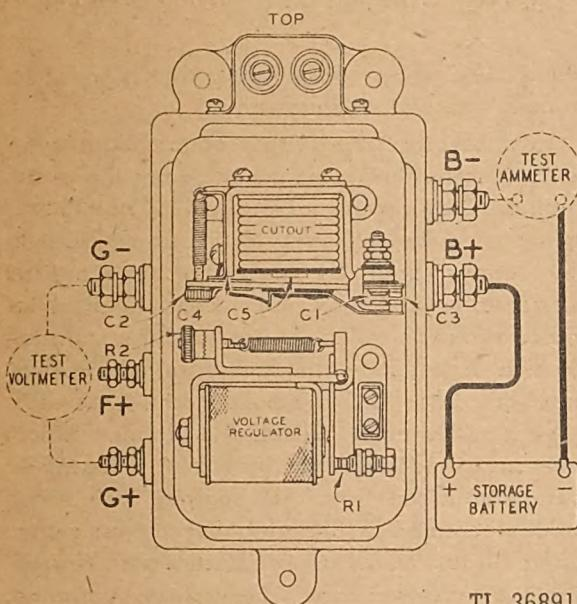
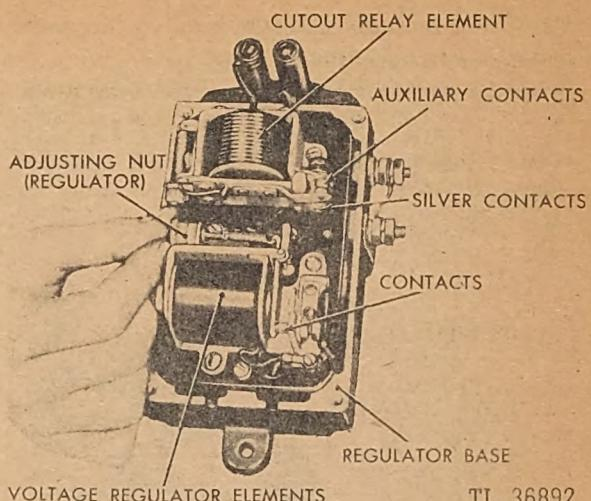

Fig. 239. Line Drawing Voltage Regulator
Fig. 240. Adjusting Voltage Regulator
e. *Setting Voltage Regulator.* Turn the generator at 2000 r.p.m. and set the voltage regulator at 28.4 to 28.6 volts, open circuit. The battery should be disconnected from the B- terminal. Refer to Figure 239. Connect a voltmeter to the G- and G+ terminals of the regulator. Run the generator at slower speeds; then speed up to 1500 to 2000 r.p.m. The voltmeter should read 28.4 to 28.6. If not, turn the adjusting nut (R2) clockwise (see Figure 240) to raise the voltage, or counterclockwise to lower it. The contact (R1) should be open momentarily after each adjustment and allowed to close.
*h. Generator Third Brush Adjustment.* If the generator has been overhauled, the third brush should be set. Connect the ammeter to B— and to the battery line as shown on the Regulator Diagram, Figure 239. Run the generator over the entire speed range and the charging rate noted. The meter should never read over 10 amperes at any speed. Adjust the third brush to this maximum value and lock it at this point by means of the brush holder screws. Tests should be made with the battery at 1.200 to 1.225 specific gravity. The generator and regulator must be allowed to run at least 15 minutes at 1500 r.p.m. to make certain that they are sufficiently heated to insure the correct final setting.